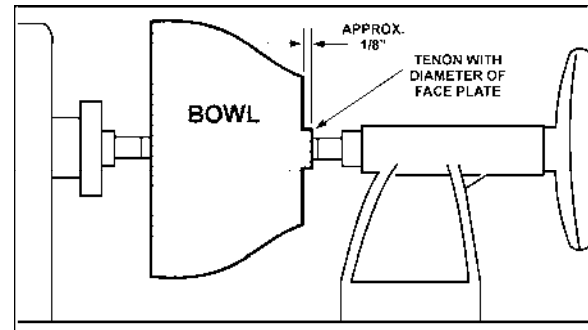

Figure 38
8. Turn a short tenon (about 1/8" long) the size of the hole in the faceplate. See Figure 38. This will allow centering the workpiece when the faceplate is attached.
6. Use the left hand to control cutting edge of gouge, while right hand swings tool handle around toward your body (Figure 38). The flute should start out facing top of workpiece, and rotate upward as it moves deeper into the bowl to maintain a clean even curve. As the tool goes deeper into the bowl, progressively work out toward the rim. It may be necessary to turn the tool support into the piece as you get deeper into the bowl.